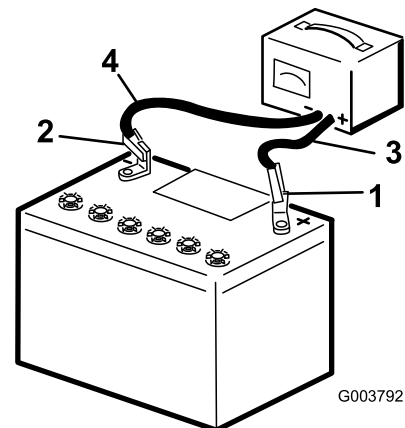

Figure 39
3. Charge the battery for 10 to 15 minutes at 25 to 30 amps or 30 minutes at 4 to 6 amps (Figure 39). Do not overcharge the battery.
4. When the battery is fully charged, unplug the charger from the electrical outlet, then disconnect the charger leads from the battery posts (Figure 39).